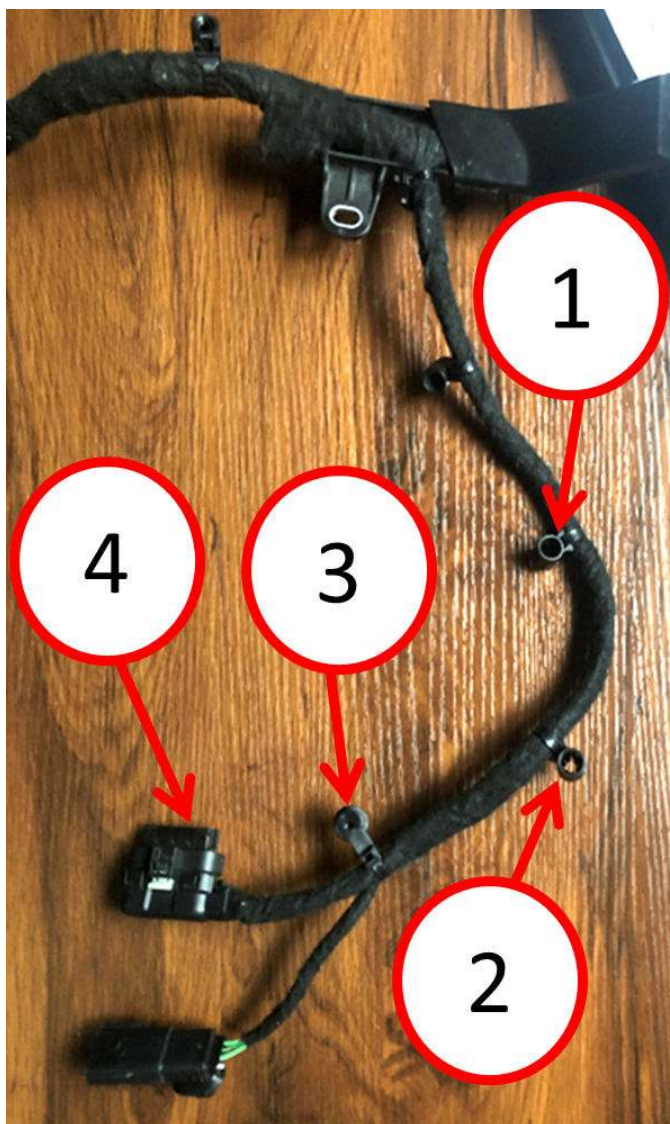
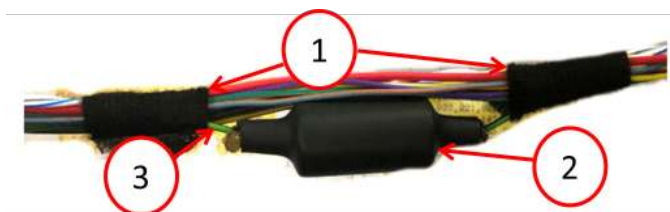

Fig. 2
Fig. 3
5. Locate on the body harness high voltage battery connector D8119E Fig. 2.
6. Remove the cover on D8119E connector Fig. 2.
7. Remove offset clip 1108 Fig. 2 from wire harness.
8. Remove stud clip 1107 Fig. 2 from wire harness.
9. Remove harness protective tape from D8119E to the remaining stud clip 1106 Fig. 2 from wire harness.
10. Locate R414A in cavity 16, located in connector D8119E Fig. 2 and remove the dark green/beige circuit wire Fig. 3.
11. Place circuit R414A through the ferrite bead and slide the ferrite bead Fig. 3 to approximately 25 mm (0.98 in.) from where clip 1106 was originally located Fig. 2.
12. Install two butyl patches around wire circuit R414A at both openings of the ferrite bead Fig. 3.
13. Place Heat Shrink tube over circuit R414A and ferrite bead Fig. 3.
14. Using a heat gun, heat the heat shrink tubing around ferrite bead, ensuring sealant flows out of each end tubing Fig. 3.
15. Install wire circuit R414A back into connector D8119E Fig. 2 cavity 16.
18. Install a new clip 1107 103 mm (4.0 in.) from clip 1106 Fig. 2.
19. Install a new clip 1108 90 mm (3.5 in.) from clip 1107 Fig. 2.
20. Install the D8119E connector cover Fig. 2.